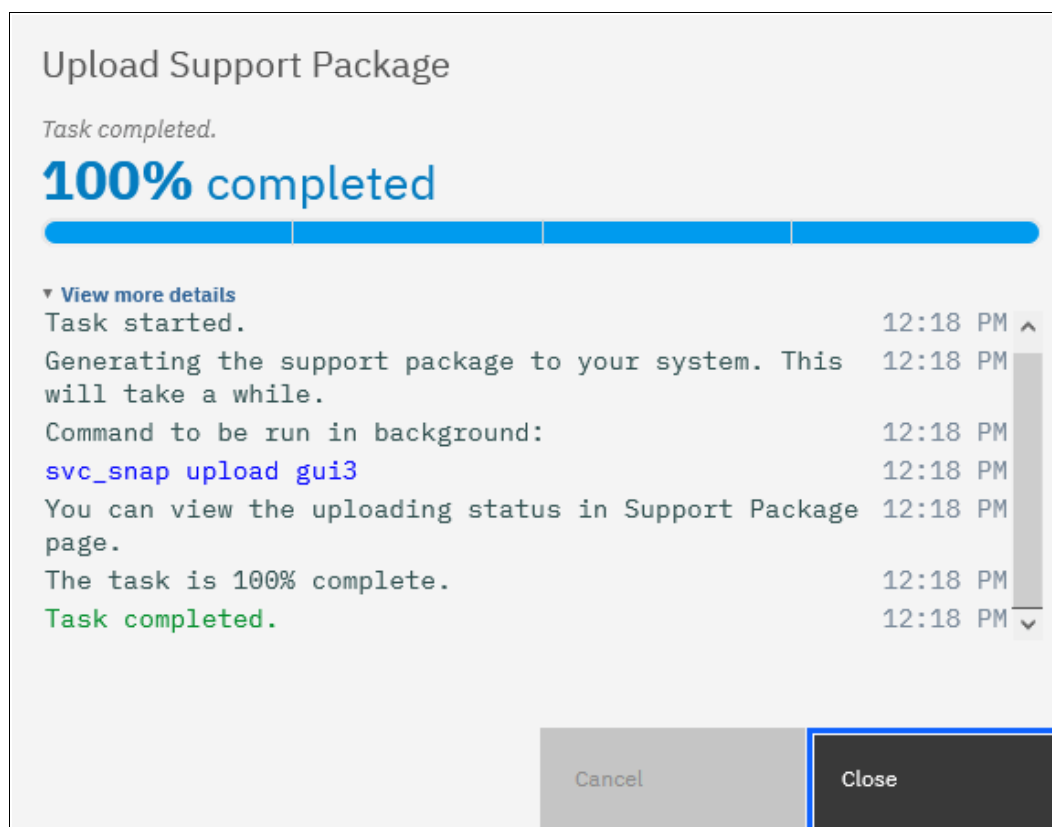

Figure 13-62 Task detail window
- The procedure to generate the snap on the system, including the most recent statesave from each node canister, starts. This process might take a few minutes (see Figure 13-62).